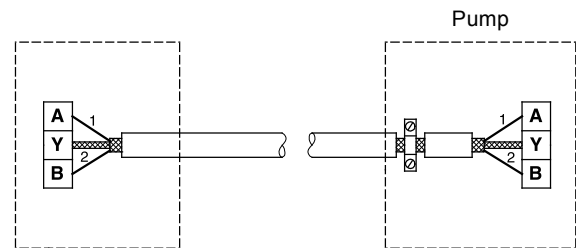

Fig. 11 Connection with screened 2-core cable
- If a screened 2-core cable is used in the existing installation, connect it as shown in fig. 11.